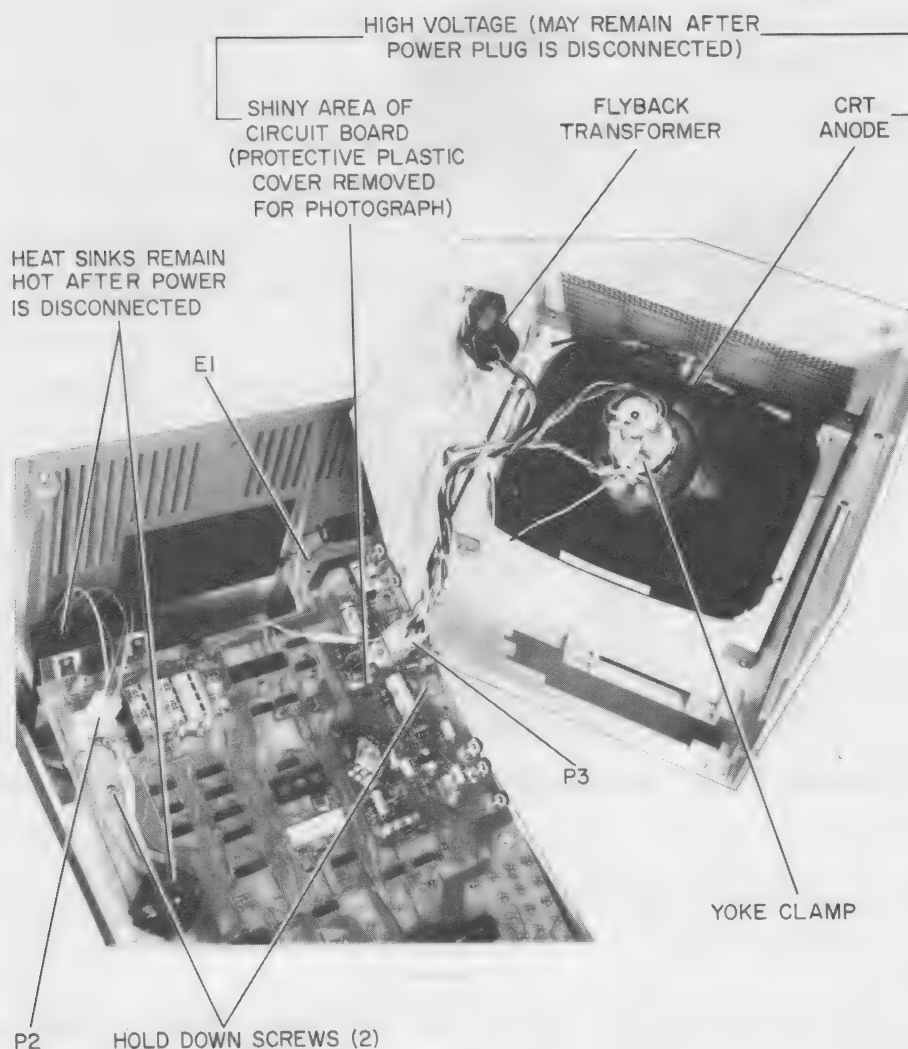

Figure 6-2. 1400 Terminal, Open, Ready for Servicing
- d. Carefully lift the cover and cathode-ray tube (crt) off the base and immediately to the right. There is enough slack in the wiring to lay the cover on its side alongside the base as shown in figure 6-2. ~~The terminal may be turned on and operated in this condition for alignment or troubleshooting purposes.~~ *The terminal cannot be turned on with the cover removed.*
- b. Loosen two screws securing circuit board to base (figure 6-2).
- (1) Note the direction and amount of tilt.
- (2) Disconnect the power plug and open the unit as described in paragraph 6.2.
- (3) Loosen the screw securing the clamp on the neck of the tube (figure 6-2).
- (4) Rotate the yoke in the direction and distance necessary to correct the tilt noted in step (1) and tighten the screws. (The display will rotate the same distance and direction as the yoke is rotated).
- (5) *Place cover on the base, set power switch to on, and check display.*